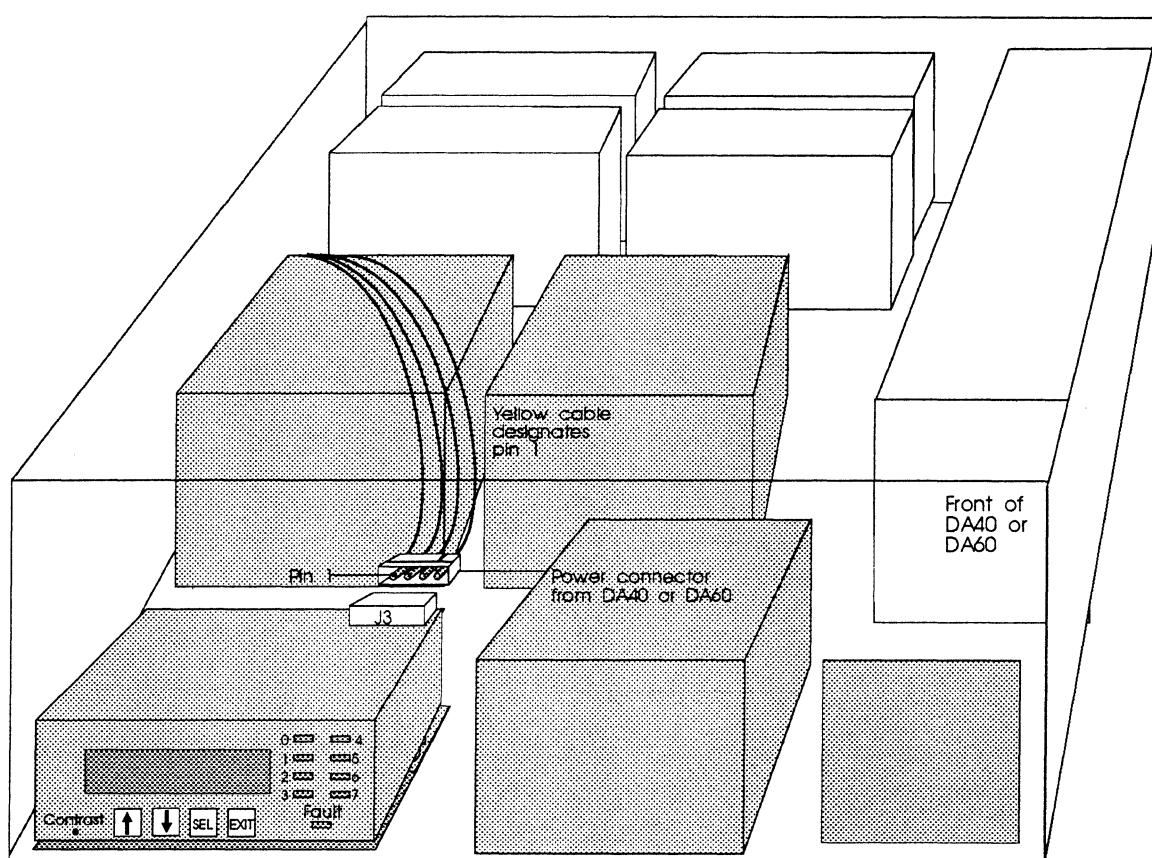

Figure 7-15: Power connection
- a Connect one power connector to the CDI-4000 at J3; see Figure 7-15.